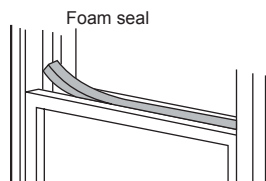

FIG.11
- 5 Cut the foam seal to an appropriate length and seal the open gap between the top window sash and outer window sash. Show as in Fig. 11.